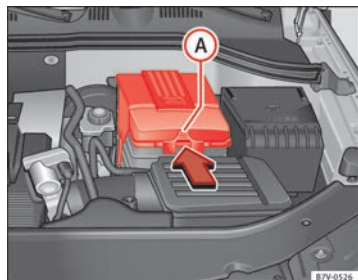

Fig. 175 In the engine compartment: Remove the cover from the vehicle's battery
- *In the case of a cover:* press the tab ⇒ Fig. 175 (A) in the direction of the arrow and pull the cover upwards.